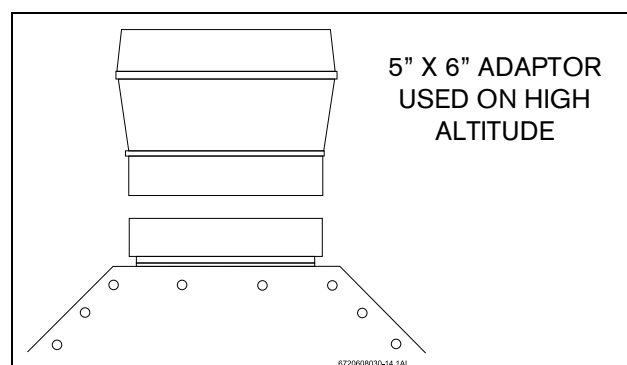

Fig. 10 Vent Adaptor for High Altitude Installations
- ▶ A 5 inch diameter gas vent constructed of double wall Type B gas vent is recommended. A 6 inch vent is required in elevations greater than 2000 feet, see Fig. 10. Under no circumstances should the vent pipe be reduced in size.
Masonry chimneys shall be built and installed in accordance with NFPS 211 or local codes. A minimum 5" diameter gas vent pipe (metal double wall Type B), or an approved clay flue liner or a listed chimney lining system must be used when venting into a naturally drafting, internal masonry chimney. 6 inch is required in elevations greater than 2000 feet, see Fig. 10. Local codes may require the use of both gas vent and an approved lining system when venting into a masonry chimney. The Commonwealth of Massachusetts requires the use of a listed liner. Lining systems include approved clay flue lining, a listed chimney lining system or other approved material that will resist corrosion, erosion, softening, or cracking from exhaust flue gases at temperatures up to 1800 degrees F. The lining system must be listed for use with naturally drafting, draft hood equipped gas appliances. Follow local codes and refer to NFGC 54 and NFPA 58.